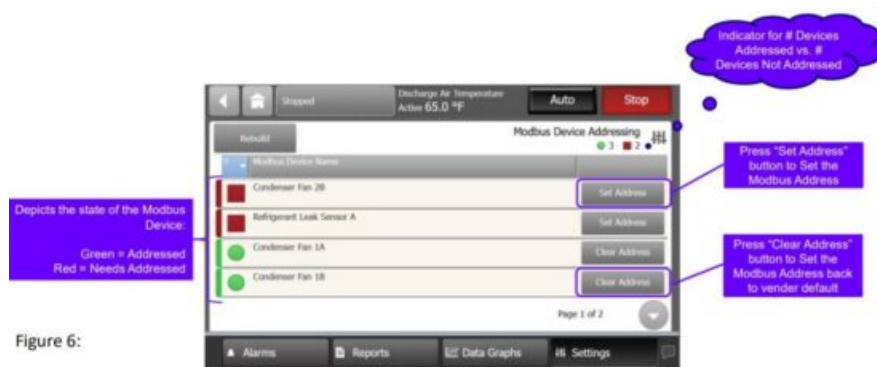

Figure 6:
2.5. Select the Device Name and click the 'Set/Clear Address' button beside it (figure 6).